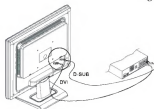

Figure 1-4
2. Connect one end of the signal cable to the LCD Monitor's D-SUB or DVI (option) port. (See Fig 1-4)